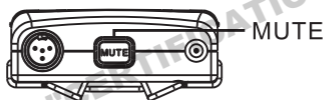

Fig. 14
1. Press MUTE button to enter MUTE mode, Fig. 14.